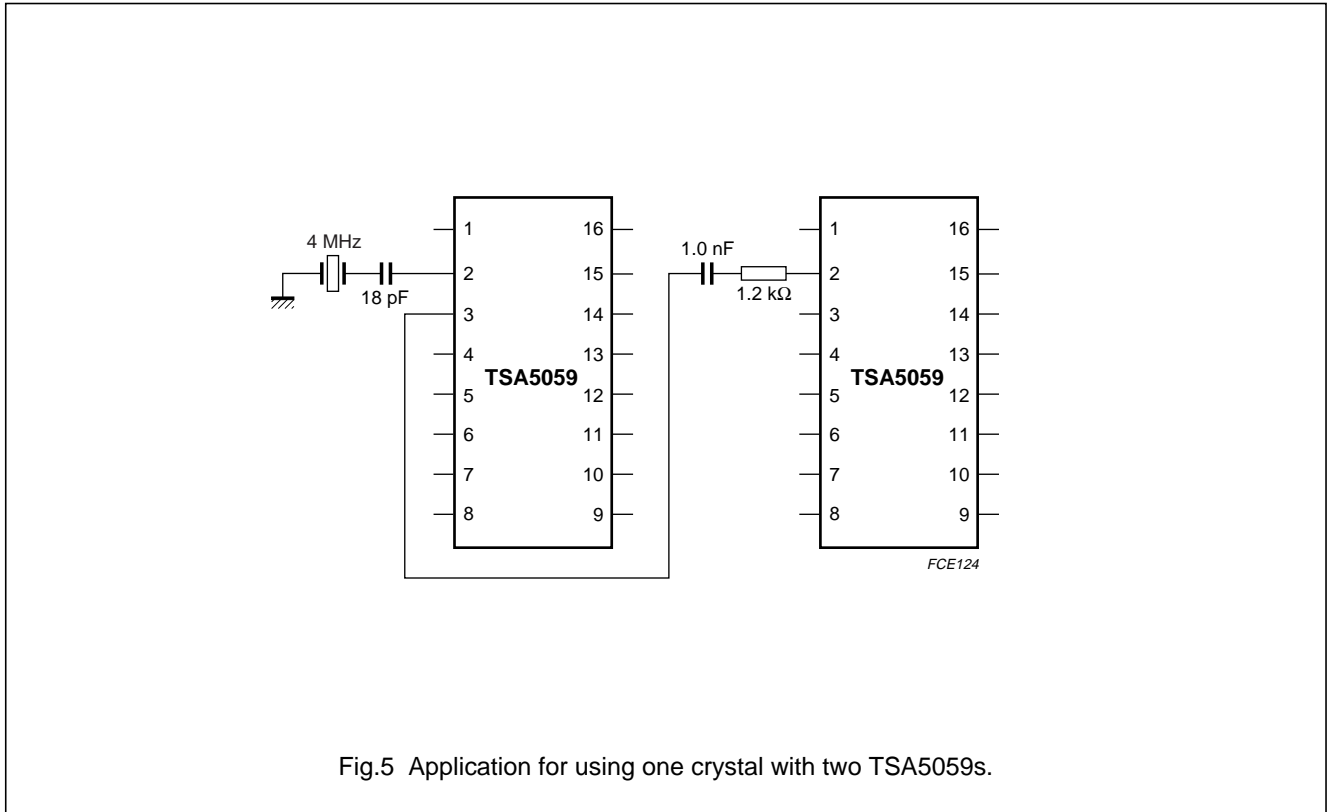

Fig.5 Application for using one crystal with two TSA5059s.
- To drive pin XTAL from the pin XT/COMP of another TSA5059, couple the signal through a capacitor of 1 nF (to remove the DC level), in series with an 1.2 k $\Omega$  resistor; see Fig.5.
It is also possible to feed pin XTAL with an external signal between 2 and 20 MHz, coming from an external oscillator or from the pin XT/COMP of another TSA5059, when more than one synthesizer is present in the same application. Then the application given in Fig.5 should be used.